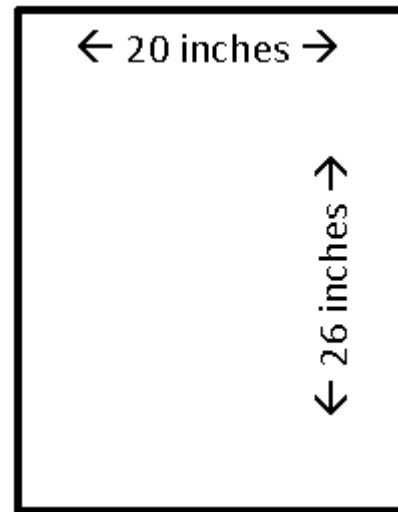

Figure 1
- Place the two pieces of tissue paper (or 4 if smaller) on top of each other and orient them with the longer distance up. (Figure 1)